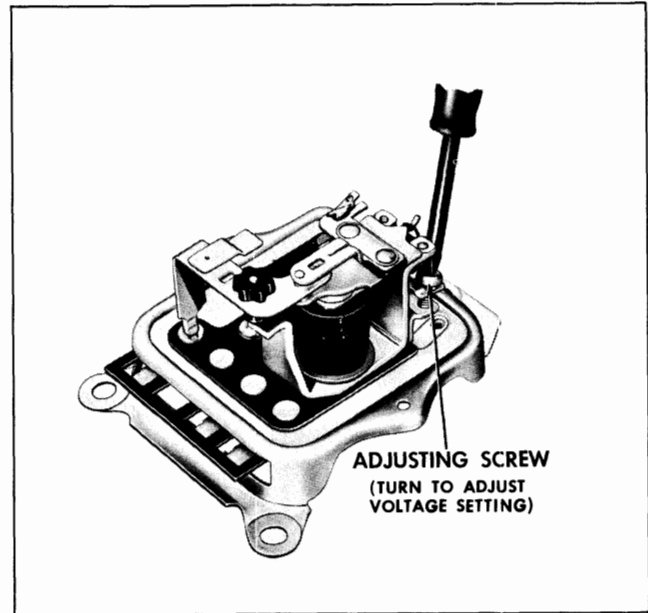

Fig. 11-34 Adjusting Voltage Setting
5. To adjust the voltage setting while operating on the upper or shorting contacts, turn the adjusting screw as shown in Fig. 11-34.
CAUTION: Final adjustment should always be made by increasing spring tension to assure contact between the screw head and spring support (Fig. 11-34).